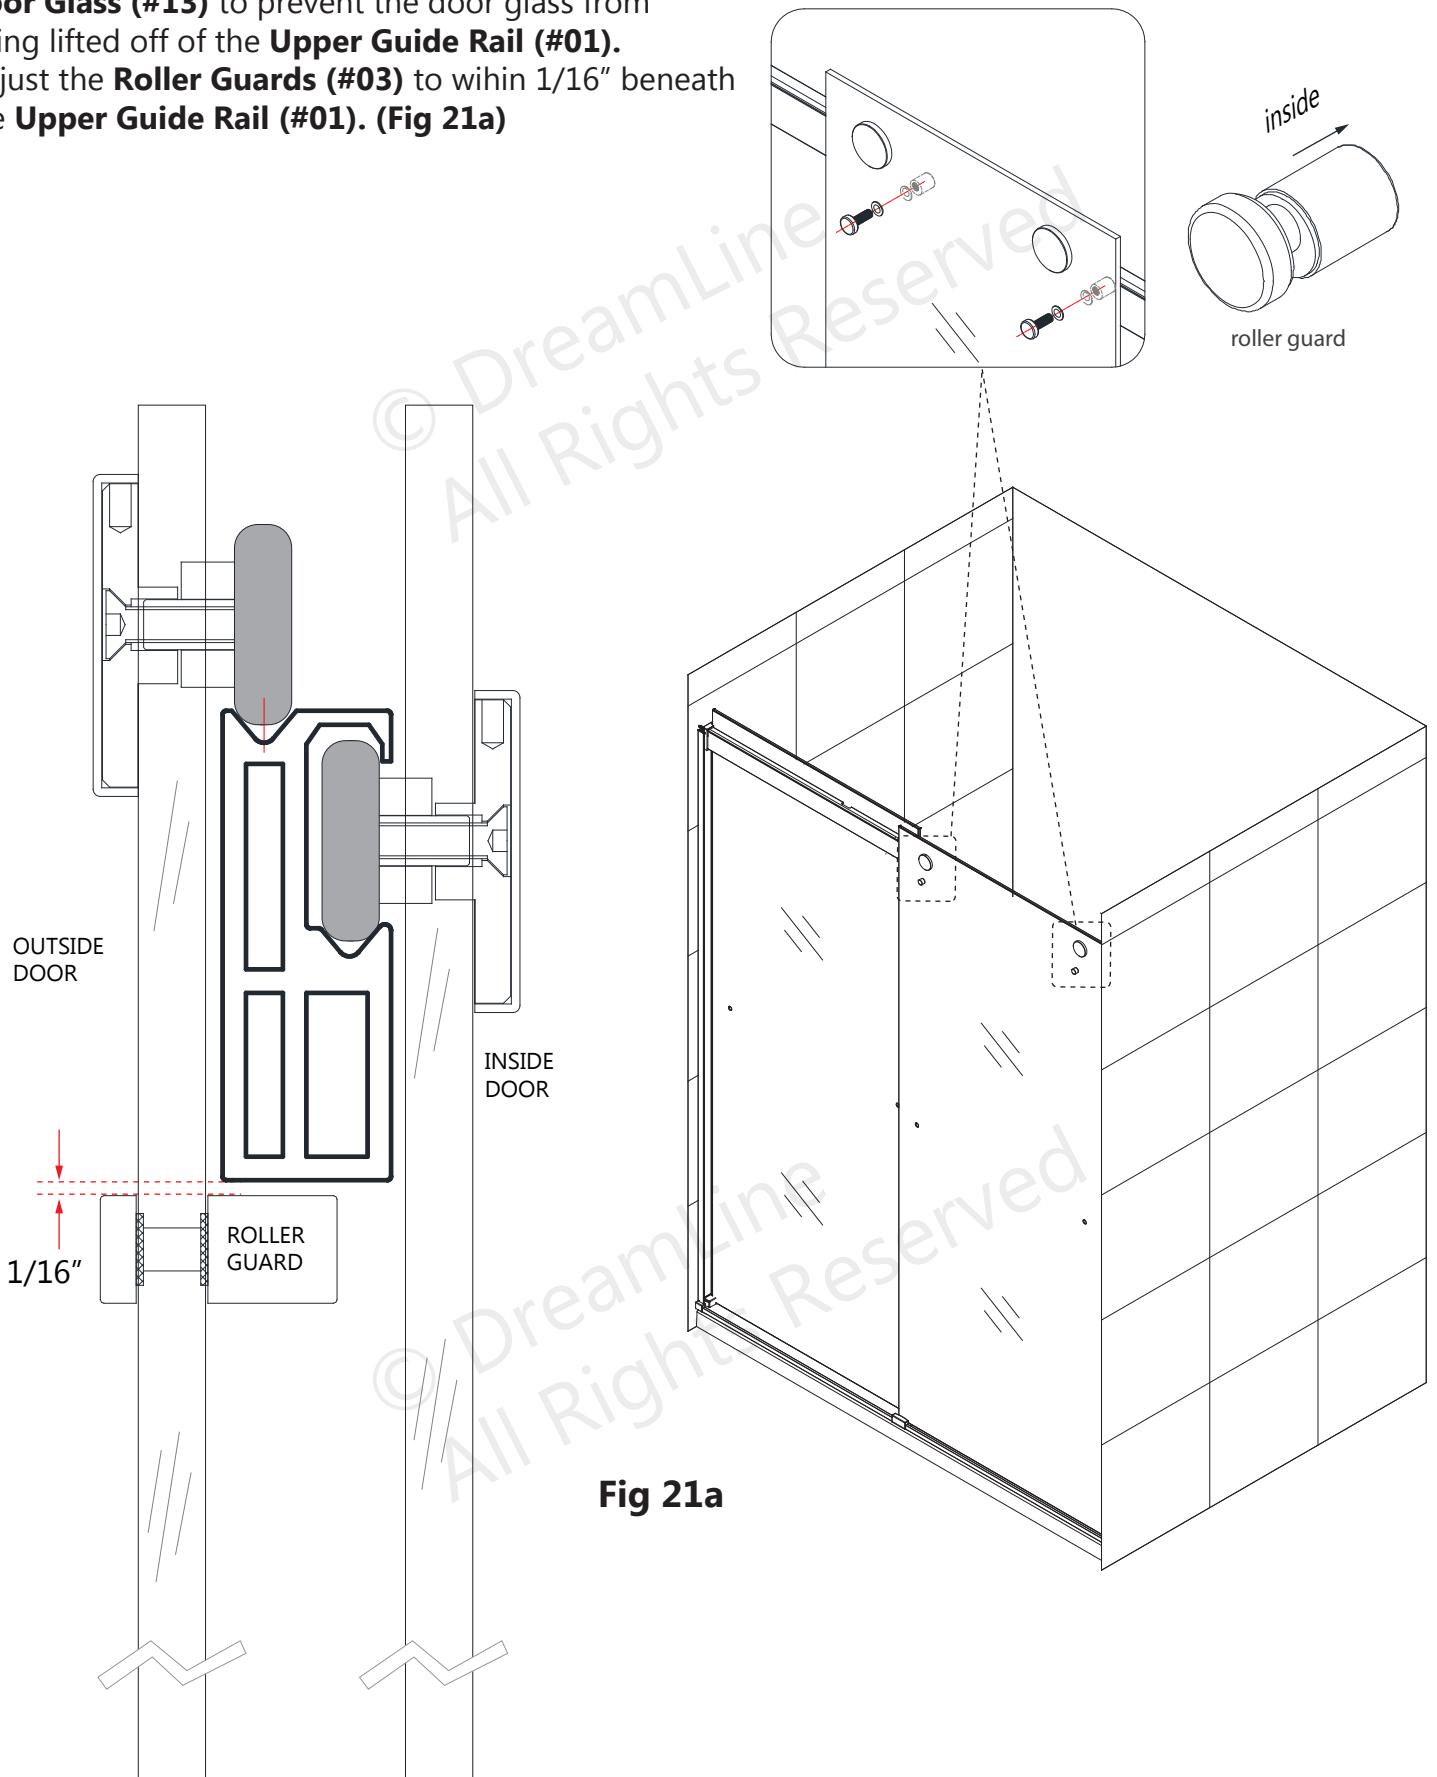
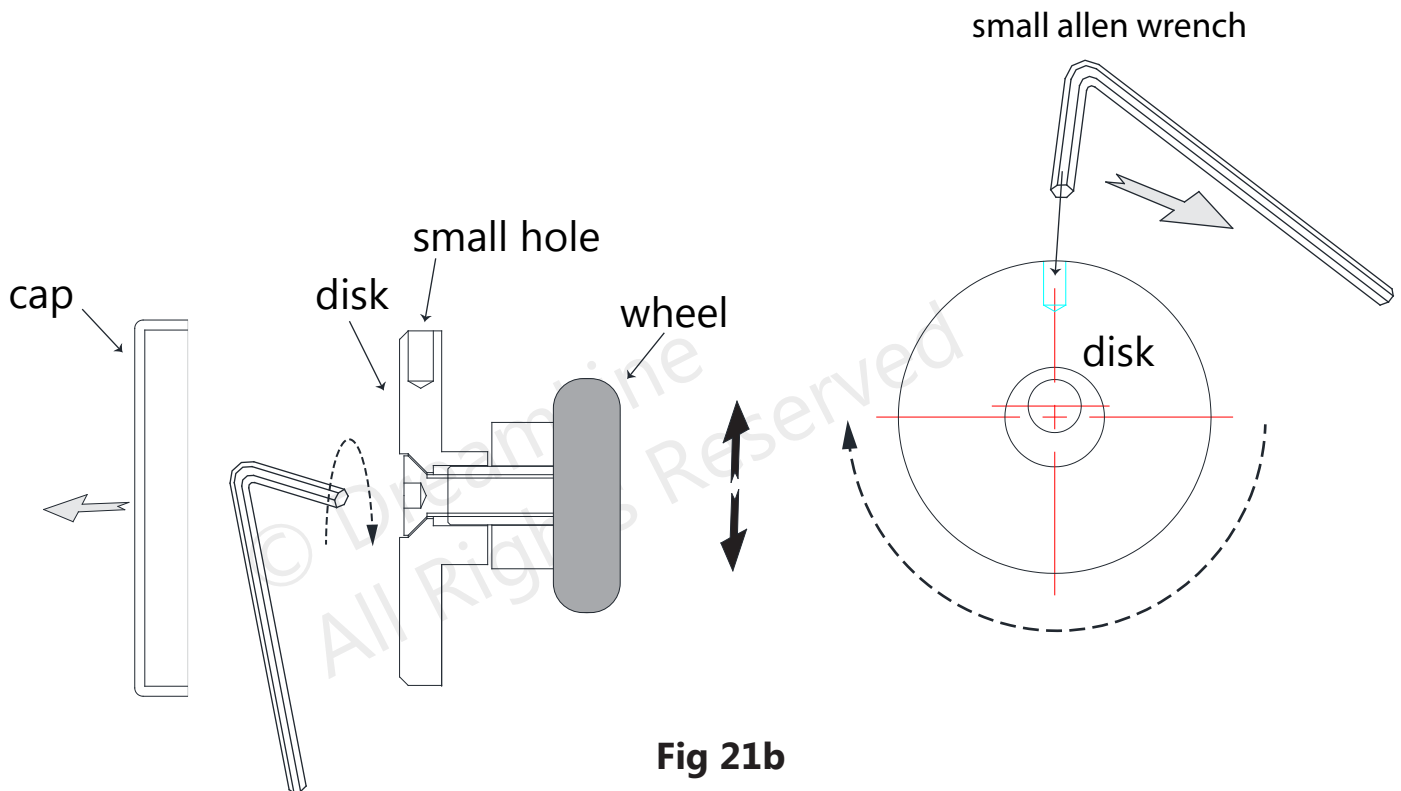

Fig 21a
Fig 21b
21. Attach the **Roller Guards (#03)** to the **Outside Door Glass (#13)** to prevent the door glass from being lifted off of the **Upper Guide Rail (#01)**. Adjust the **Roller Guards (#03)** to within 1/16" beneath the **Upper Guide Rail (#01)**. (Fig 21a)
- Insert a small allen wrench or similar tool into the small hole in the edge of the adjustment disk to help rotate the disk (see Fig 21b) and tilt the door glass to seal with the bulb vinyl in the wall profile
(Fig 21a and Fig 21b)